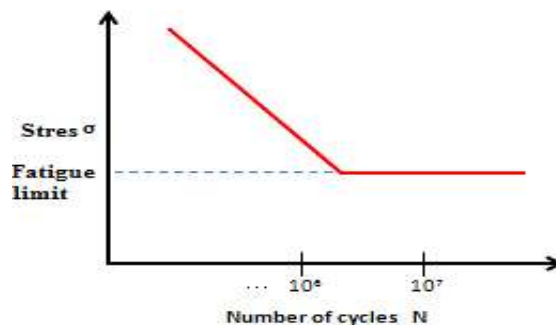

Fig. 2 S-N curve
1. Measure the gauge length (L) and diameter at the middle portion (d) of the given specimen.
2. Place a suitable load (W) say, 50kg in the weight hanger of the machine and release the cam so as to apply the weight / load to the specimen.
8. Plot a graph between ' $\log \sigma$ ' vs ' $\log N$ ' by taking $\log \sigma$ along y-axis and $\log N$ along x-axis. The shape of the curve will normally be as shown in Fig. 2.
9. Read the value of stress corresponding to the knee of ' $\sigma - N$ ' curve, which will be the endurance limit or fatigue strength for the given specimen as shown in Fig. 2.